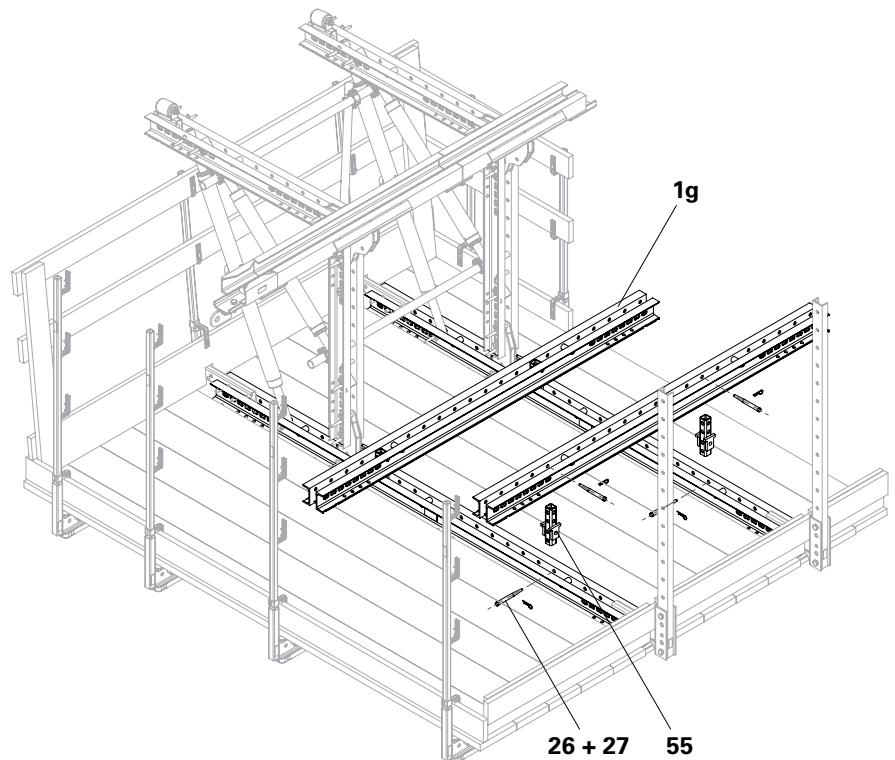

Fig. B7.02
1. Mount 6x Cross Connector VARIOKIT (55) using 1x fitting pin $\text{Ø} 21 \times 120$ (26) respectively in the Steel Waler Universal SRU U120 of the Leading/Finishing Platforms and secure with cotter pins 4/1 (27).
2. Mount 3x Steel Waler Universal SRU U120 (1g) with 1x fitting pin $\text{Ø} 21 \times 120$ (26) respectively per Cross Connector VARIOKIT (55) and secure with cotter pins 4/1 (27). (Fig. B7.02)